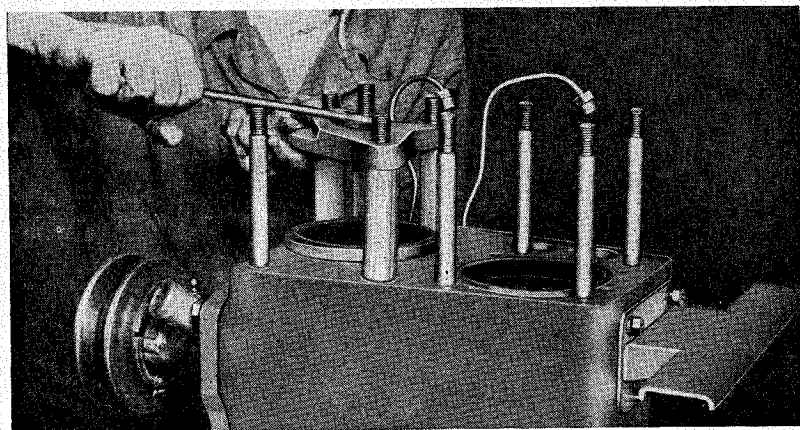

Fig. 26.
9. If the cylinder liners must be removed for reboring or replacement, use the puller 4441.90 as shown in Fig. 26 and proceed as follows: